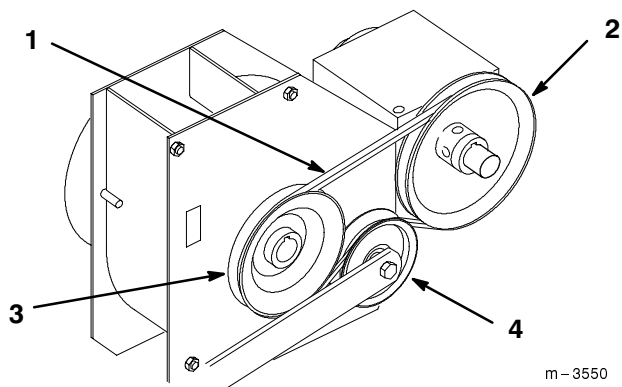

Figure 84
2. Push up on the spring loaded idler pulley behind PTO (power take off) gearbox to relax pressure on blower belt (Fig. 84). Lock into frame slot.
4. Install new blower belt around PTO gearbox and blower pulleys. Then push up on the idler and place belt above idler pulley (Fig. 84).
5. Check that belt aligns with PTO, blower and idler pulleys (Fig. 84).